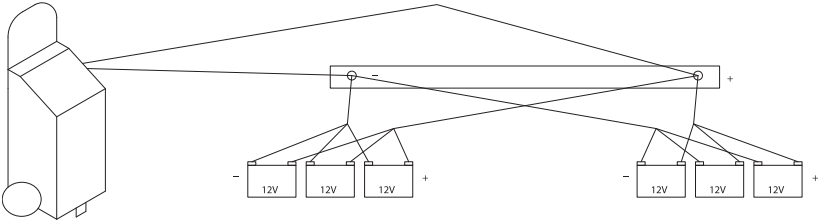

Figure 1
- C. Connect a red clip and a black clip of the Bus Bar to the positive and negative terminals of each battery respectively. (See Figure 1) If the LED light is green, the clip connection is correct. Otherwise reverse the connections until the light turns green. When the correct connection is obtained, take off **only** the red clip and mount it on the bar. Continue this process until all the battery connections have been checked.